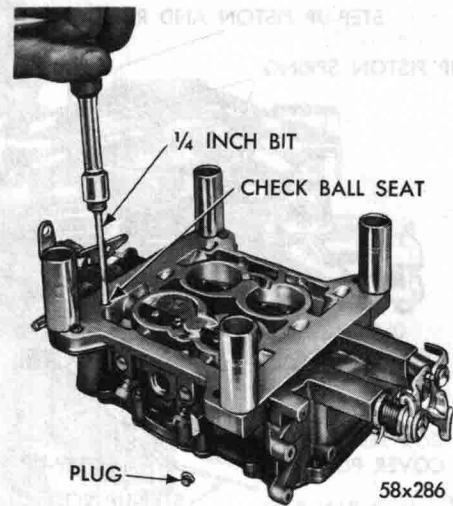

Fig. 63—Removing or Installing Accelerator Pump Intake Check Ball Seat
(6) Invert the main and throttle body casting, and remove the accelerator pump intake check ball plug. Using Tool T109-59, screwdriver bit, remove the check ball seat, as shown in Figure 63. Again invert the body casting and drop out the intake check ball.
(7) Remove the two idle mixture adjusting screws and springs from the throttle body portion of the main casting.
(7) Invert the carburetor and install the accelerator pump intake check ball. Install seat and tighten securely, using Tool T109-59 (Fig. 63). Install screw plug and tighten securely.